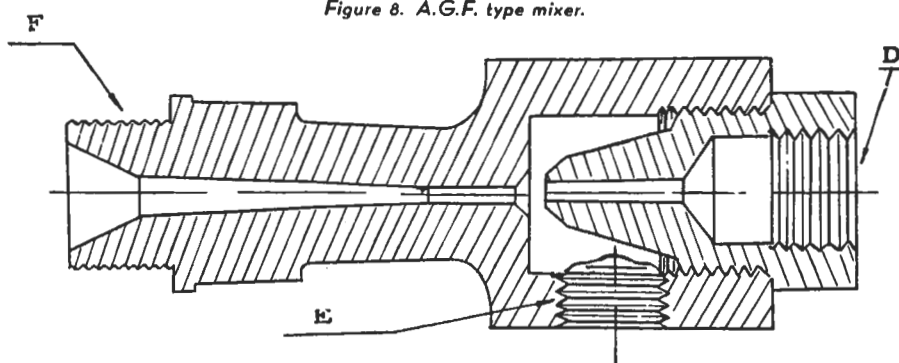
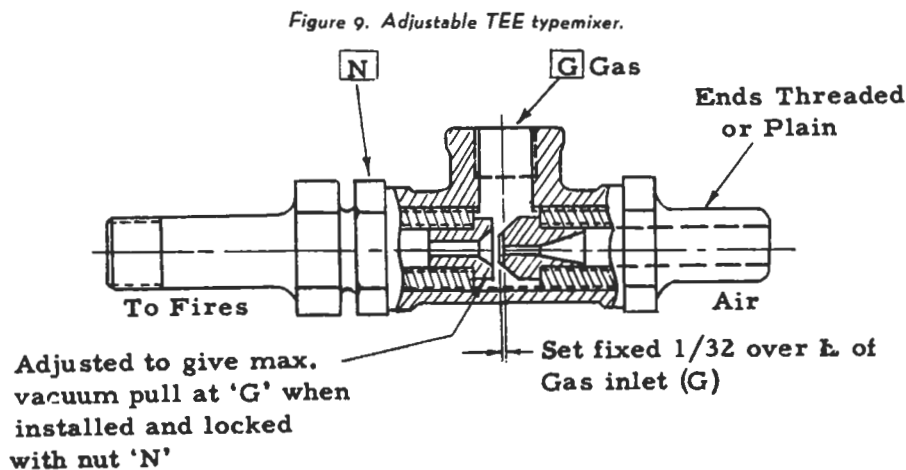

Figure 8. A.G.F. type mixer.
Figure 9. Adjustable TEE typemixer.
The mixers of the venturi type in use today are improvements on the old mixing TEE and are of two general types: (1) A.G.F., shown by Fig. 8; (2) Adjustable TEE, shown by Fig. 9. Each has its advantages—a full discussion of these is too long for this